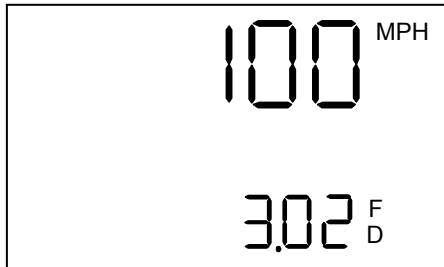

Figure 11. Model and Firmware Revision Number
3. Press the **SURVEY MODE button**. The display should look similar to Figure 11.